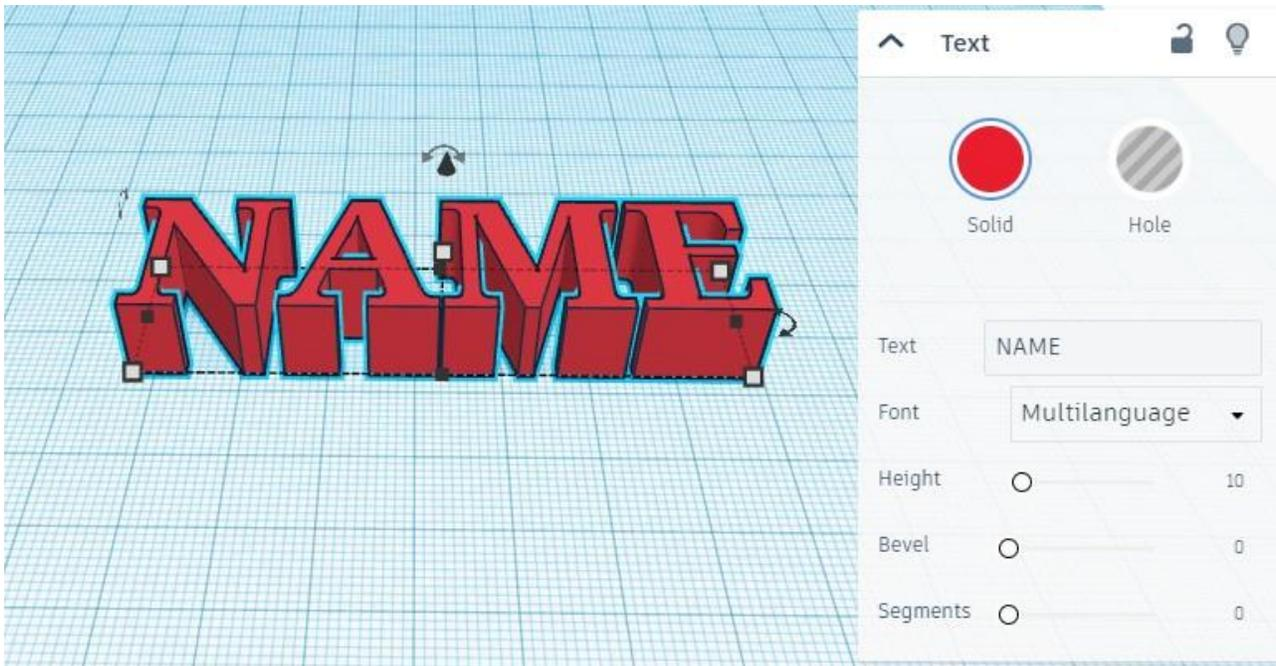

Fig.2.17 Insert your first name
6. Type in your first name in the text box in the Shape menu appears. If your first name is long, you may need to click and drag the side of your box to make it longer. (Refer fig. 2.17)